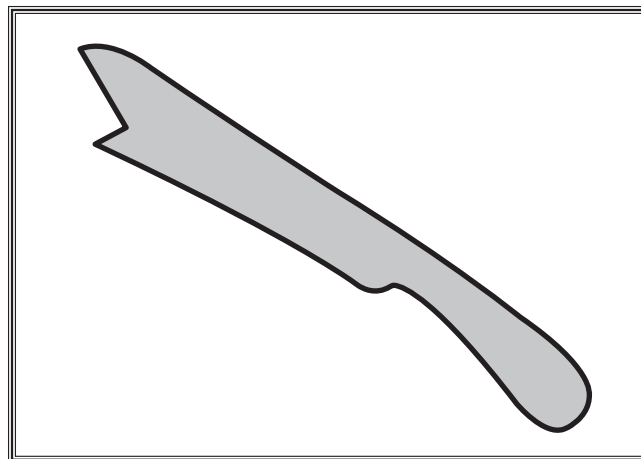

Figure 59. Illustration of a simple push stick.
- Push Sticks made from the shop are very popular among table saw owners because they are inexpensive and easy to make. Particularly good are those that keep your hand a safe distance away from the blade, offer stable support and grip, and are comfortable in the hand. **Figure 59** shows an illustration of a simple push stick.